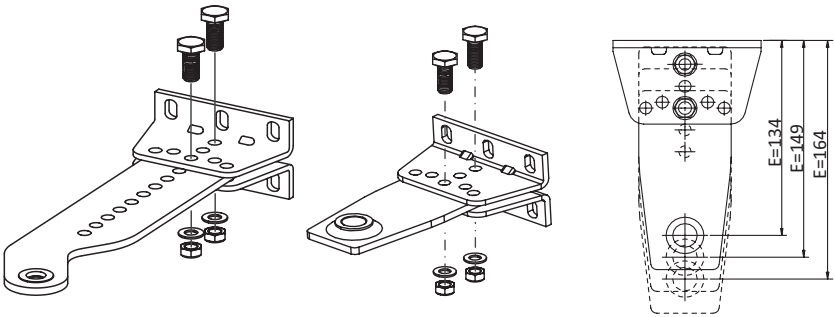
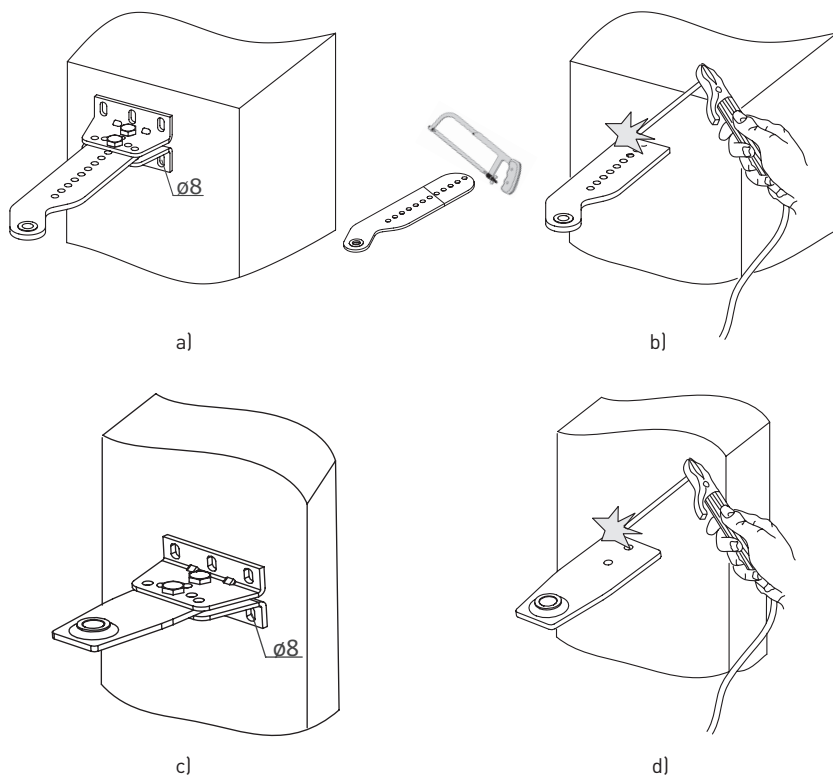
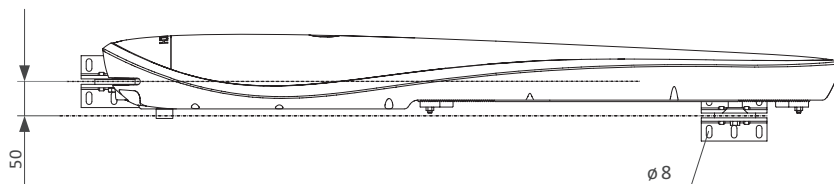

Figure 8. Assembling a rear, front fitting
Figure 9. Mounting a rear or front fitting
Figure 11. Mounting a front fitting
E — dimension between a leaf edge and the axis for mounting a drive on its front fitting (fig. 8), minimum dimension E=134 mm; α — leaf opening angle;
- after defining the mounting dimensions, **A** and **B** and a location to attach a rear fitting to the post, select an assembly type for the rear fitting (*tab. 6, fig. 8*). When needed, cut the bracket of the rear fitting to the required size. In case the bracket is not long enough, use improvised materials to add length to the rear fitting.
- fix the rear fitting on the post, either bolting it down or welding (*fig. 9*). Make sure the fitting is positioned horizontally. The fitting should be assembled and mounted rigidly.
- ensuring compliance with the mounting dimension **W**, fix the front fitting on the leaf (*fig. 11*). The length of the front bracket **E** can be adjusted (*fig. 8*), in this case note the condition **B** > **X**. In case the bracket is not long enough, use improvised materials to add length to the front fitting. The fitting can be bolted or welded to the leaf (*fig. 9*). Use a spirit level to verify throughout the mounting process.